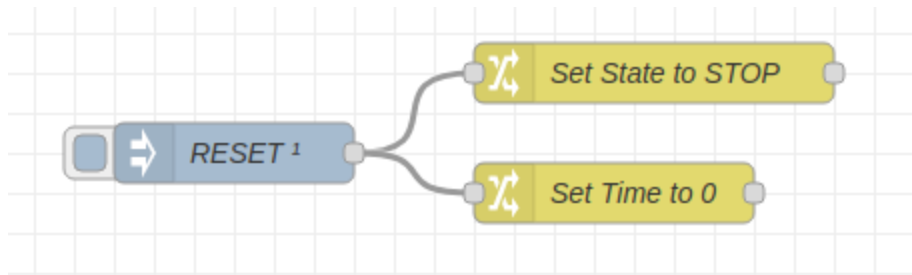
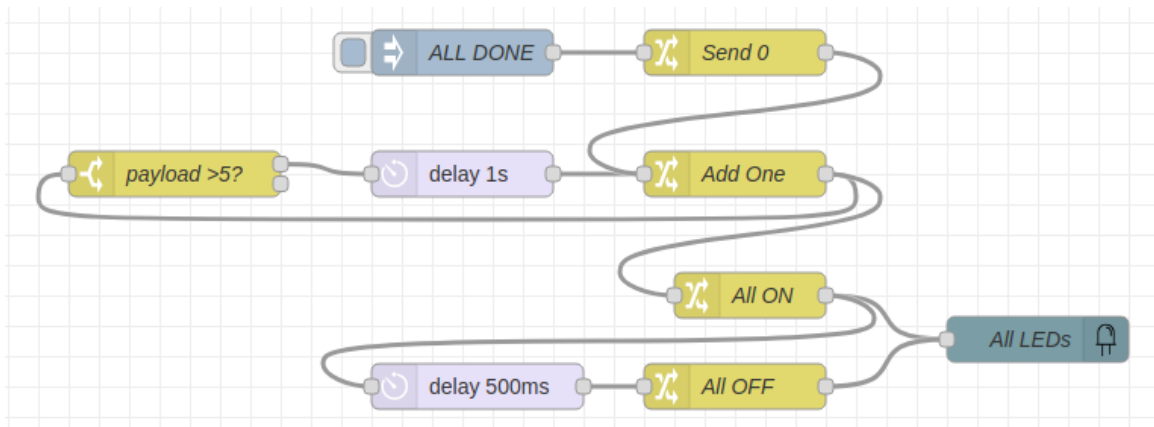

Figure 5-86: Deployment (Take 1)
Figure 5-103: Flasher Flow
**Deployment Flow** – When you deploy your kitchen timer flows the State is set to “STOP” and the Time is set to 0. What about the LED? Opps, better set those to zero to match the state, just in case they are set to some other value from some previous work you did (item 9 of specification). Easy to do... just add a Link Out node to the “Set Time to 0” node of Figure 5-86 and send it to a Link IN wired to the “All OFF” node of the Flasher flow in Figure 5-103. Make life easier and name the Link Out and Link In nodes the same name, like “Clear LEDs”. Don’t forget to open each Link node and connect them to each other.